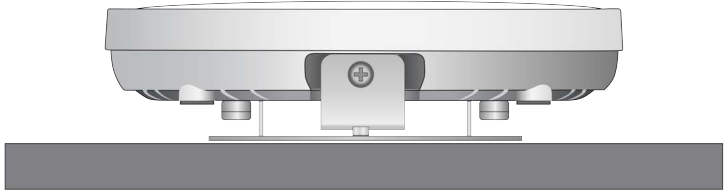

Figure 10. Approved and Unapproved Orientations on a Ceiling, Wall, or Table
- ❑ Refer to Figure 10 on page 28 for approved and unapproved orientations of the wireless access point on a table, wall, or ceiling.
1. Choose the location and orientation for the access point on the wall or ceiling. Refer to Figure 10 on page 28.